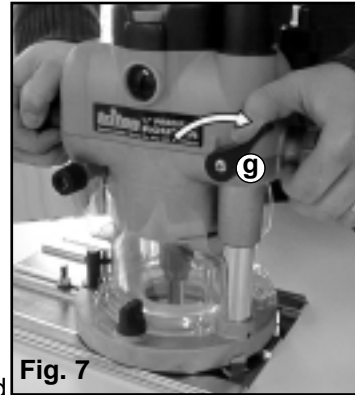

Fig. 7
2. Release the Plunge Lock Lever (g). Push the body of the router until the desired depth is reached. Re-lock the plunge lock lever. **Fig 7**
3. Before operating lock the plunge lock lever (g), particularly for heavy cuts. **(Fig. 7)**